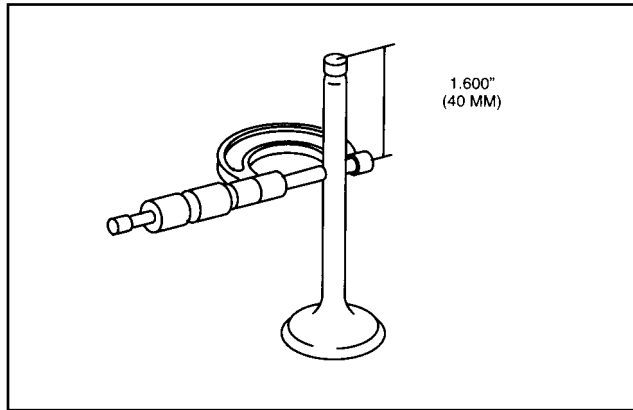

Fig. 16 - Measure Valve Stem Diameter
5. Measure valve stem diameter at specified distance from end of valve, as shown in Fig. 16.